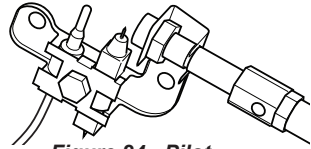

Figure 24 - Pilot
- With control knob pressed in, push down and release ignitor button. This will light pilot (Figure 24) The pilot is attached to the rear of the front of burner. If needed, keep pressing ignitor button until pilot lights.